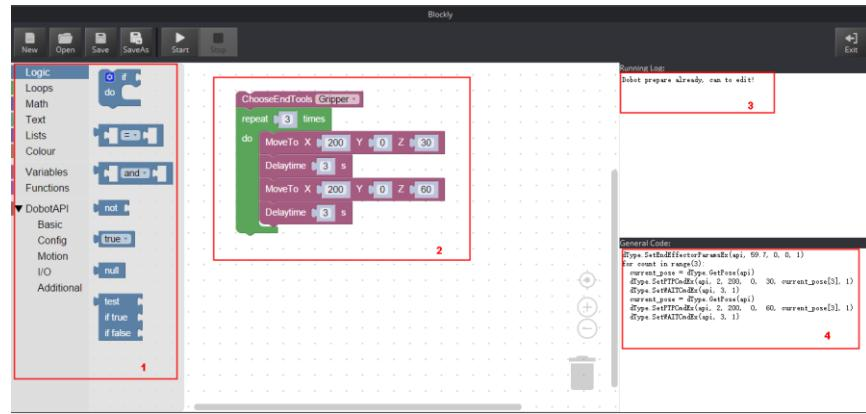

Figure 5.167 Blockly graphic programming
**Step 2** Drag the blockly module on the left pane of the **Blockly** page to program, as shown in Figure 5.167.
The demo in Figure 5.167 is described as follows.